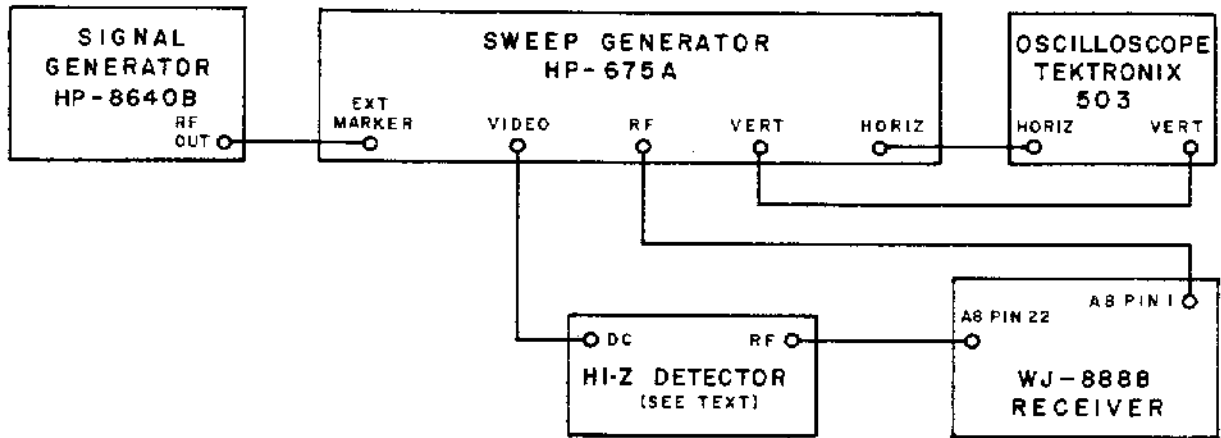

Figure 5-23. Test Setup, 455 kHz IF Alignment
(1) Place the receiver in the MAN gain mode and the narrowest available IF bandwidth position. Rotate the RF GAIN potentiometer fully clockwise.
(2) Connect the equipment as shown in Figure 5-23, using the low frequency high impedance detector shown in Figure 5-3.